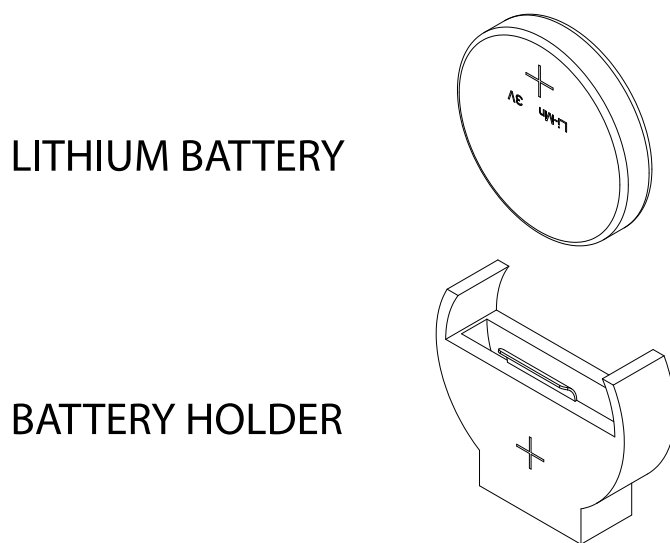

Figure 3-18. Installing the Onboard Battery
3. Remove the dummy drive from the carrier (Figure 3-18).